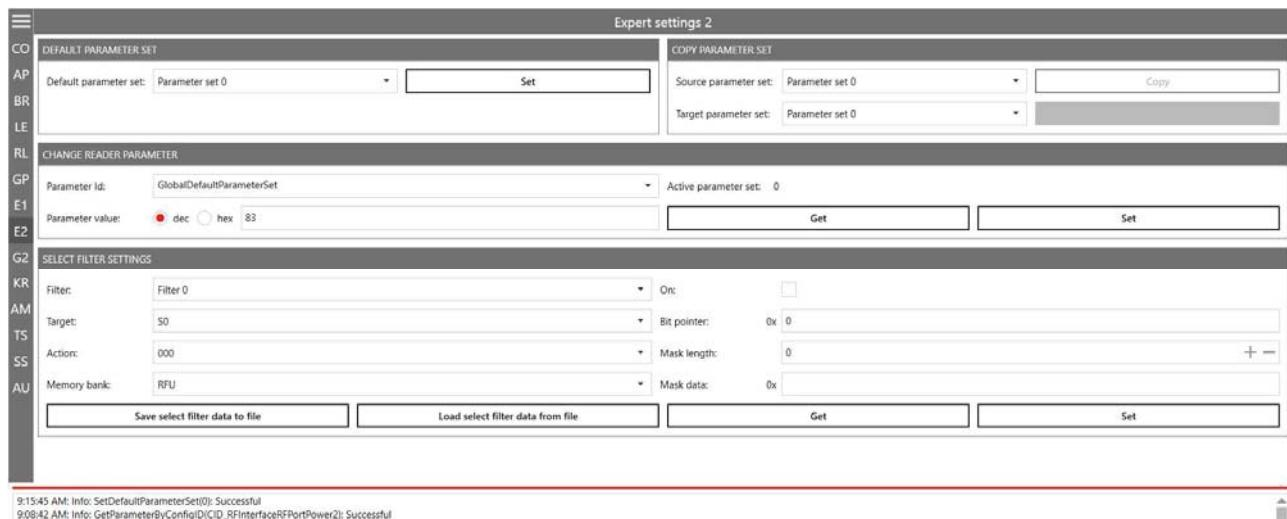

Figure 46 Expert settings 2
- Select the filter you would like to save the filtering settings to under *Filter* (①).
- Select the target (②). Make sure the target matches the session set in ⑯ Figure 46.
- Select an action (③). In the example, the action is set to 100; see also *EPCglobal Gen 2 Specification*.
- Select the *EPC* memory bank (④).
- Activate the select filter (⑤).
- Enter 40 at *Bit pointer* (⑥).
- Enter the mask length at ⑦. In the example, *FC28* is one word, therefore, the value is 16.
- Enter the value (*FC28*) at ⑧.
- Click *Set* (⑨).